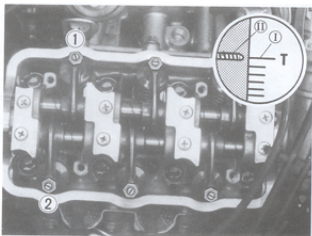

Fig. 4-151
Remove the ignition timing check hole plug provided at the joint between engine and transmission to gain visual access to the "T" mark. Turn over crankshaft to index mark ① to timing match bolt ②, and see if the rocker arms of No. 1 cylinder are off the respective cam lobes (of camshaft); if so, valves ① and ②, Fig. 4-151, are ready for clearance checking and adjustment: if not, turn over crankshaft further by 360° to index mark ① to bolt ② again. This 360° turning should bring about the desired state. (in which the two valves are ready for checking and adjustment).